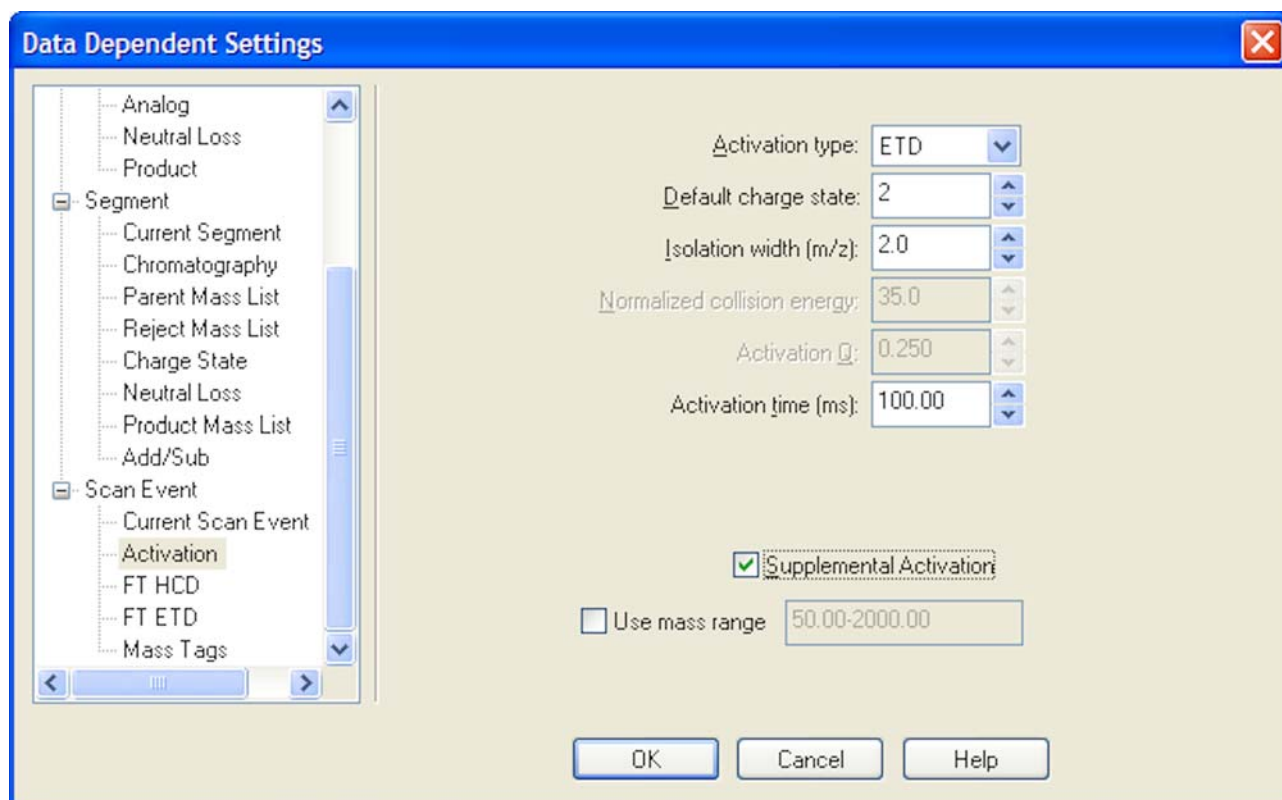

Figure 7-36. Data Dependent Settings dialog box in MS Detector Setup—Activation page
9. Click **Settings**. A Data Dependent Settings dialog box appears. See Figure 7-36 on page 7-39.